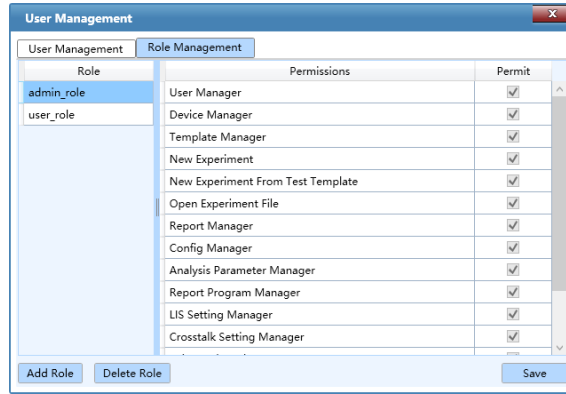

Figure D-3.11a. User Interface - General User Permissions Tab
- **Role Management** tab: as shown in figure D-3.11a.